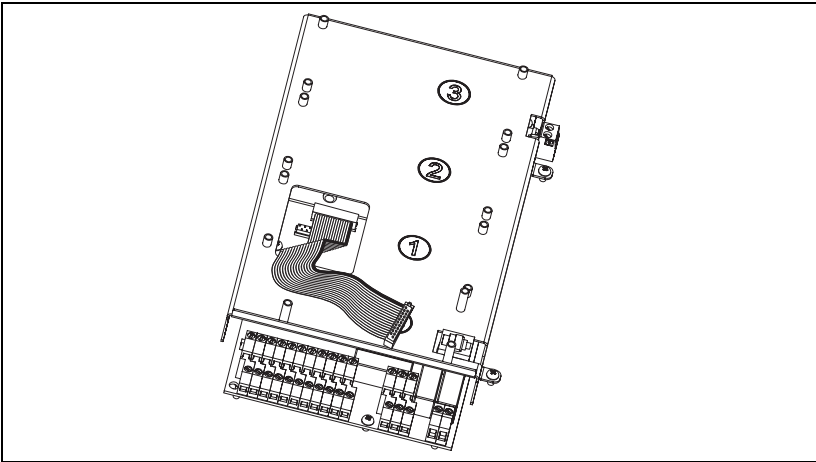

Fig. 4 Flat cable connected to the control board
1. Connect the 16-pole flat cable to the X5 connector on the control board with the cable downwards as in Fig. 4.